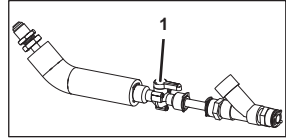

Figure 52
1. Close the shut-off valve (Figure 52/1).
16. Open the shut-off valve (Figure 52/1).